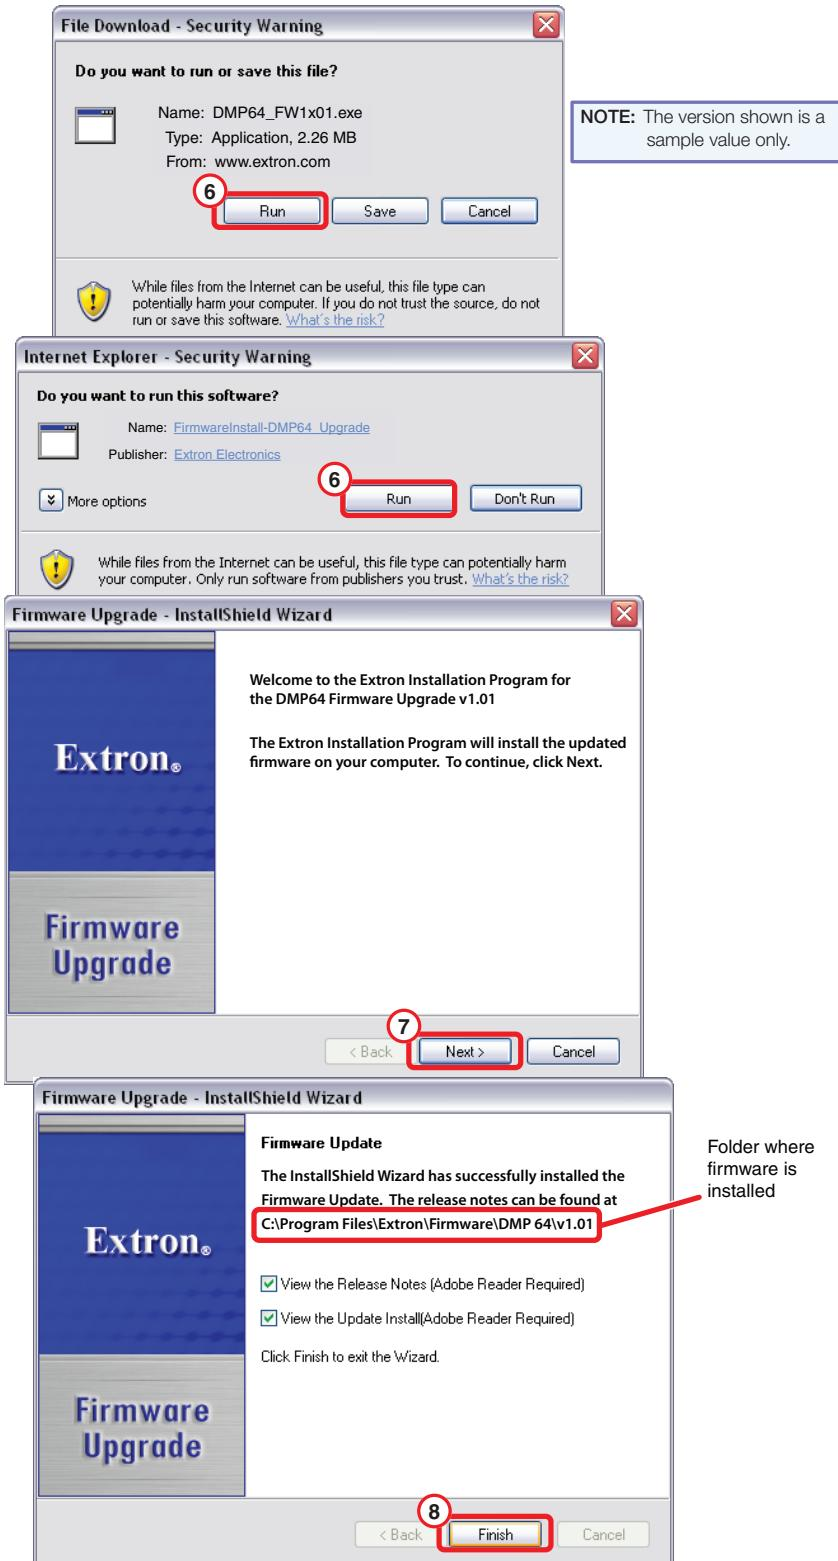

Figure 69. Downloading Firmware Upgrade Files
6. Click **Run** twice (see figure 69, ⑥). The PC downloads the firmware update from the Extron Web site and starts the installation program to extract the firmware file.
7. Click **Next** (see figure 69, ⑦ on previous page). The program extracts and places the firmware files in a folder identified in the InstallShield Wizard window.
8. Click **Finish** (see figure 69, ⑧) to exit the program.